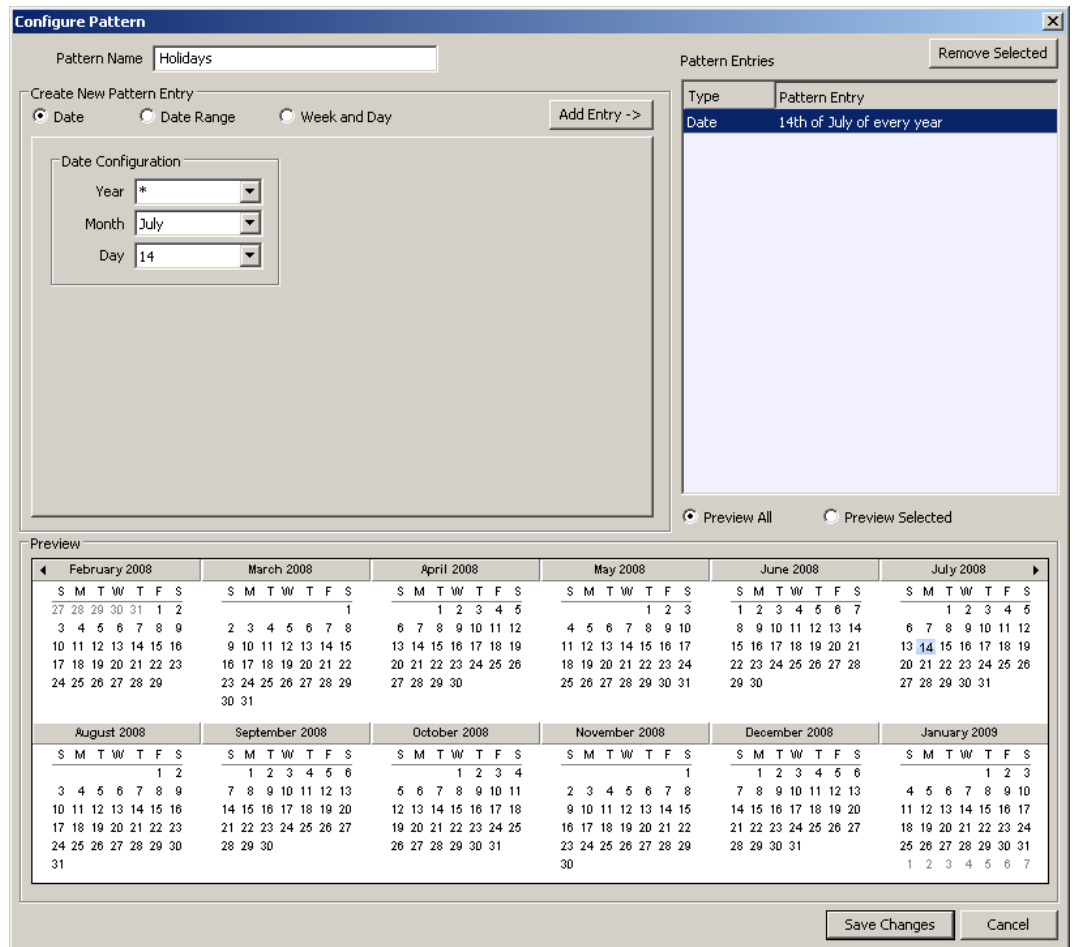

Figure 164: Configure Calendar Pattern Dialog.
4. The **Configure Pattern** dialog appears as shown in Figure 164. Add dates to the calendar pattern by entering a Date Configuration. Then click **Add Entry**. The date appears in the Pattern Entries list on the right-hand side.